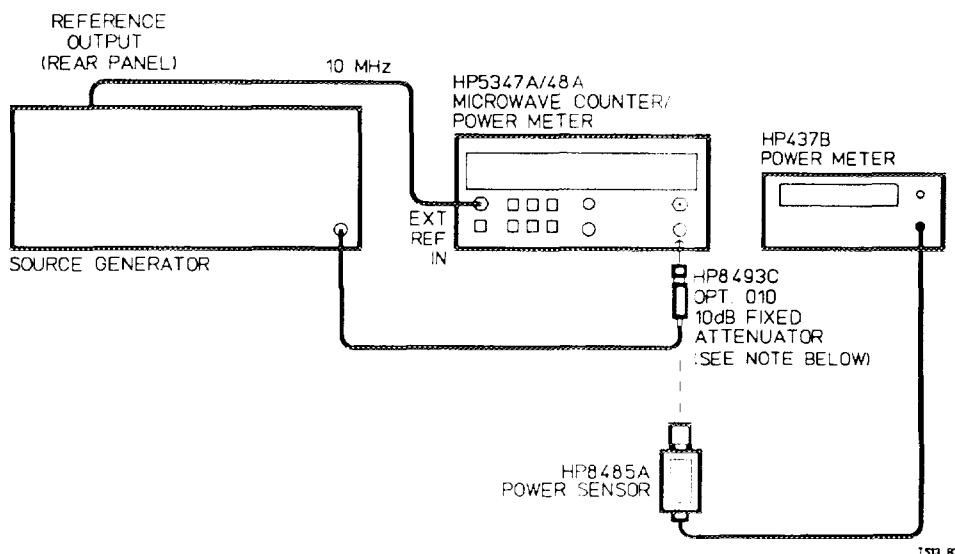
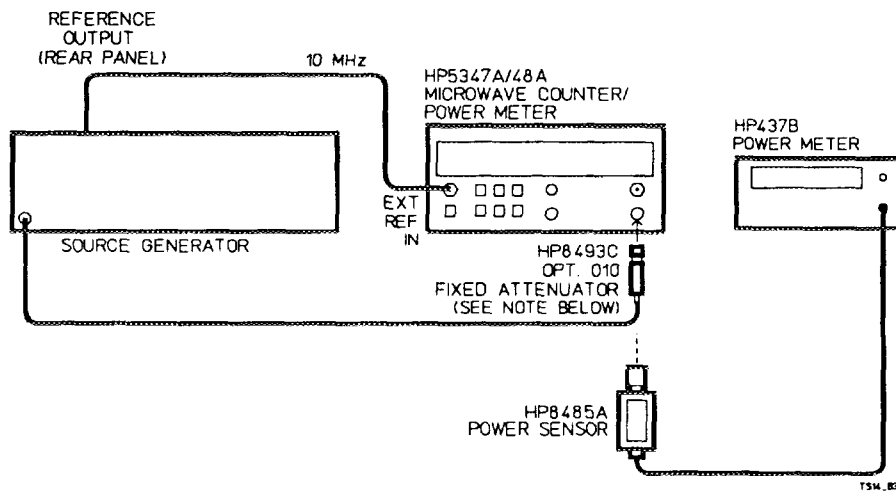

Figure 4-7. INPUT 1, 500 MHz-1 GHz Test Setup
Figure 4-8. INPUT 1, 2.5 GHz-20 GHz [26.5 GHz] Test Setup
The following test is in two parts, *Figure 4-7* is the test setup for Part I (500 MHz to 1 GHz), and *Figure 4-8* is the test setup for Part II (2.5 GHz to 20 GHz [26.5 GHz for HP 5348A]).
Description: In Part I, the HP 5347A/48A is set to the 500 MHz – 20 GHz [26.5 GHz for HP 5348A] range and the appropriate input signal is applied to INPUT 1. The source generator is set to selected frequencies up to 1 GHz, and the actual sensitivity of the HP 5347A/48A is measured. In Part II, the test setup is changed to *Figure 4-8* to measure sensitivity in the 2.5 GHz-20 GHz [26.5 GHz for HP 5348A] range. The source generator is set to the appropriate test level, and the actual sensitivity is measured at selected frequencies up to 20 GHz [26.5 GHz for HP 5348A].
1. Connect the equipment as shown in Figure 4-7.
1. Connect the equipment as shown in Figure 4-8.